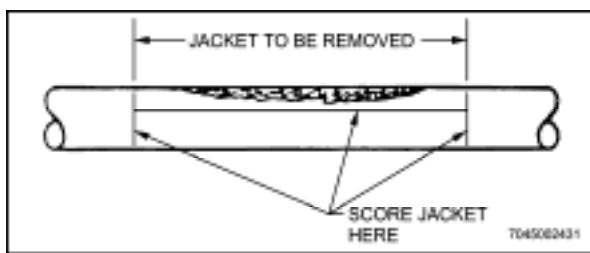

Figure 5-17 Scored Jacket
- c. Using a sharp blade, score cable jacket around the cable and along the length of the damaged area (Figure 5-17).
- p. When all wires have been reconnected, remove 12.7 mm of cable jacket at each end by carefully scoring around cable and along length to be stripped (Figure 5-17).